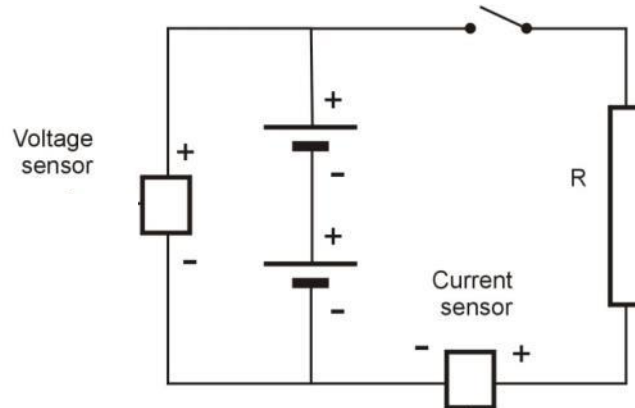

Figure 2
1. Assemble the equipment as shown in Figure 1 and Figure 2.